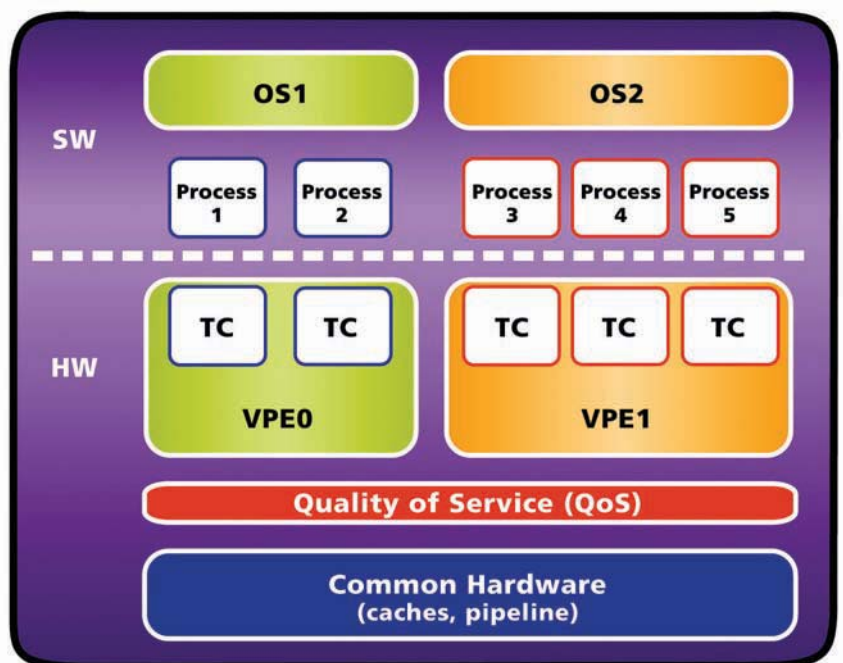

Figure 4: MIPS32 34K processor design
As illustrated in **Figure 4**, each thread has its own dedicated hardware, called the thread context (TC). This allows each thread to have its own instruction buffer with pre-fetching so that the core can switch between threads on a clock-by-clock basis to keep the pipeline as full as possible. All this avoids the costly overheads of context switching.